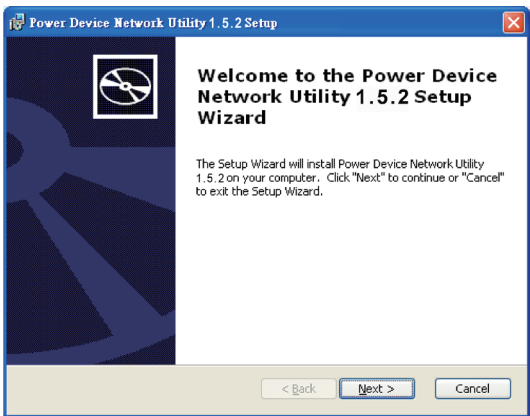

Figure 1
Step 2. Select **Next** in the software wizard (Shown in Figure 1).